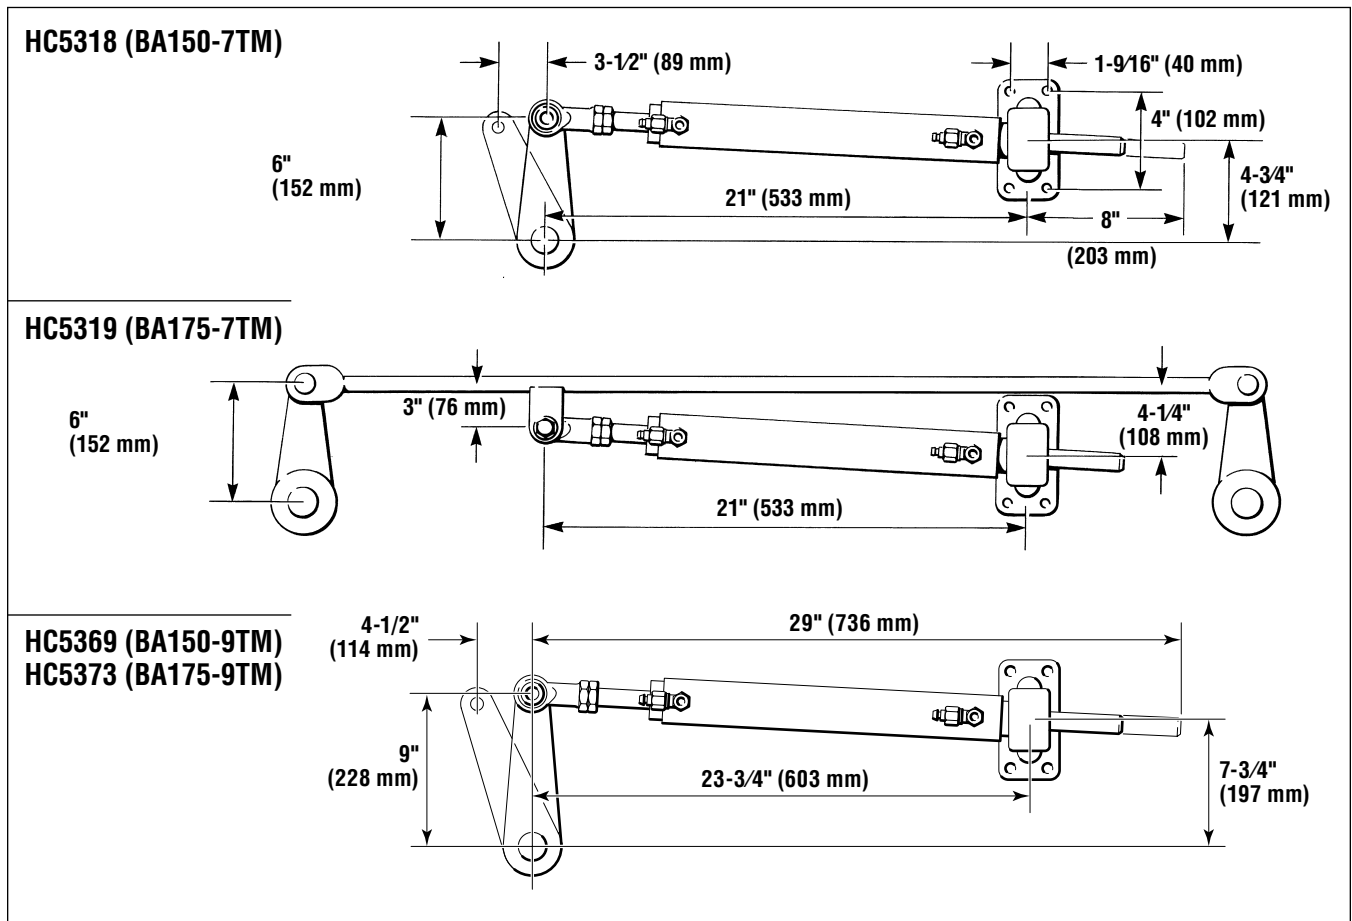

Figure 8.
4. Extend cylinder rod to arrive at 21" (533 mm) or 23-1/4" (591 mm) from center of rod end ball joint to the center of the mounting foot. See figure 8.